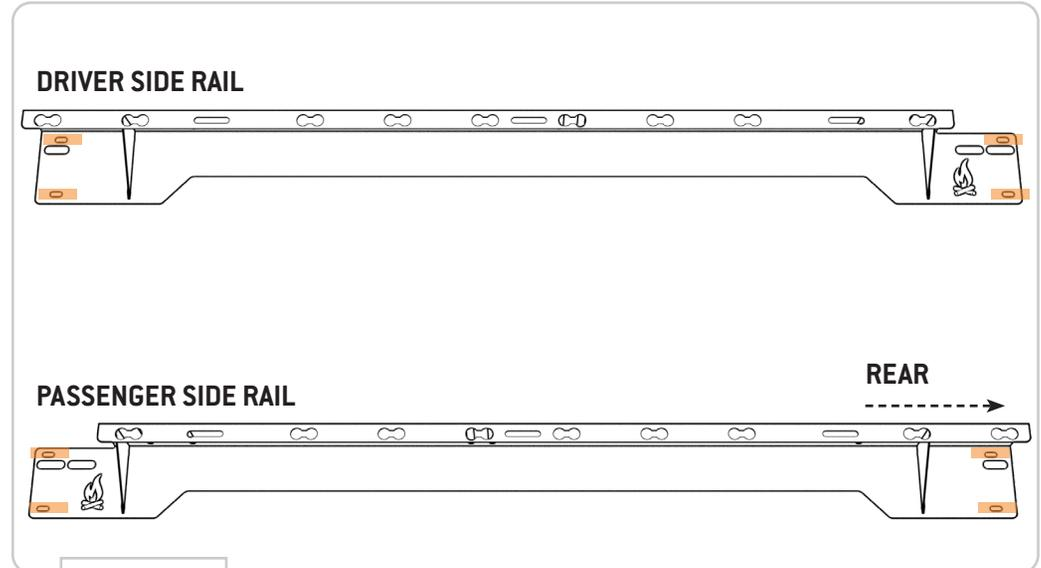

FIG 4
**2.1b** See mounting slots highlighted in **FIG 4**. These are designed to accommodate 1/4-20 screws for use when attaching FVC Bed Rails to your FVC Bed Bracket System.